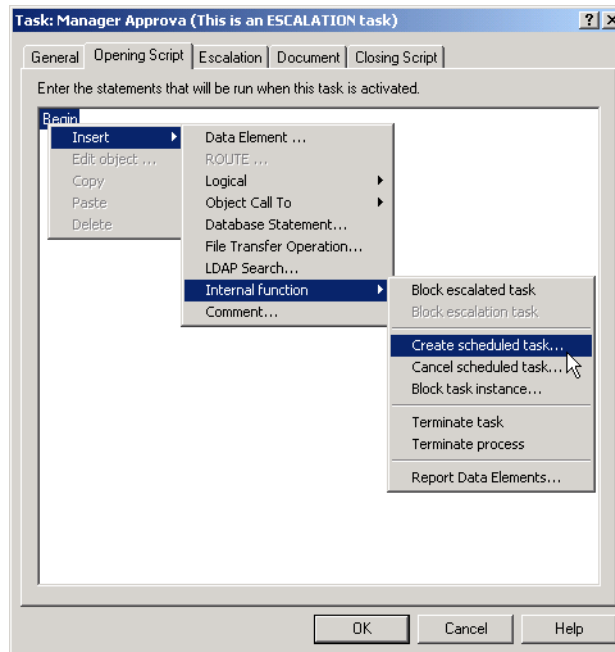

Figure 31-13. Creating a Scheduled Task.
- ❶ To create a scheduled task, click on the **Opening** or **Closing Script** tab, right-click on a statement, select the **Insert** drop-down menu, select the **Internal Functions** drop-down menu, and select **Create Scheduled Task** (see Figure 31-13, below).
The Scheduled Task dialog appears (see Figure 31-13, above).